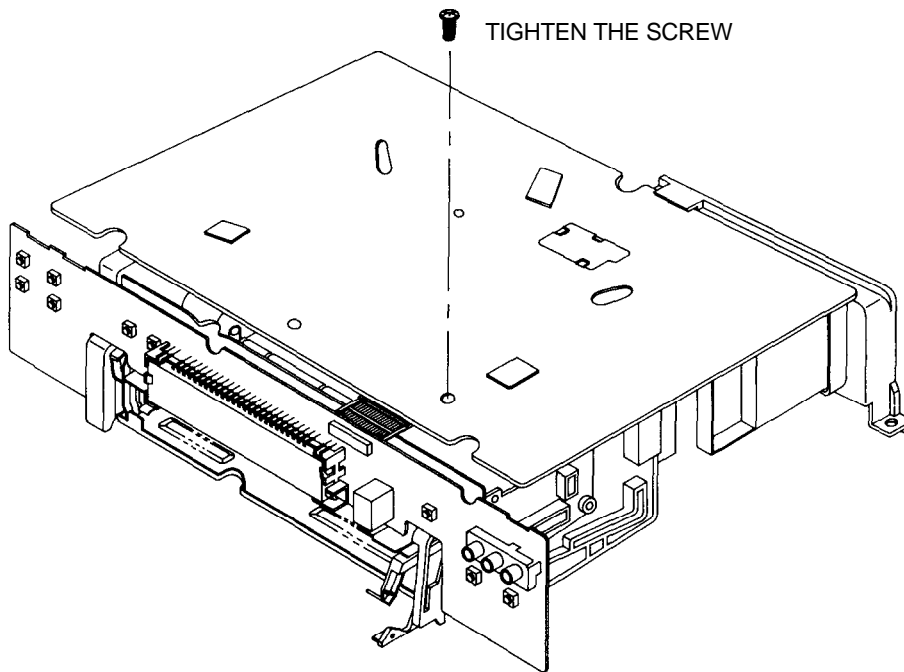

Fig. 8 Trouble Shooting Posture
1. Set the main PCB & DECK ass'y as shown in Fig. 8.